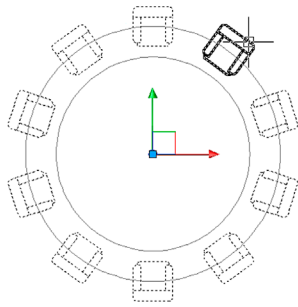

FIGURE 8.6 Edit Source.
- **Edit Source:** This option allows you to edit and modify the source object. These changes are then reflected in the overall array. If you forget which object was the original source, it does not matter; you can pick any of the chairs and work on it. Execute the command, say "Yes" if you see the Array editing State dialog box, select the object, modify it, and when done, type in `arrayclose`, or click on Save Changes on the Ribbon at the far right. Fig. 8.6 shows Edit Source in progress.